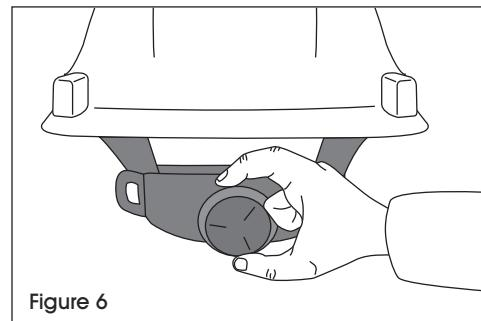

Figure 6
1. Turn ratchet knob counterclockwise until the headband opens to the largest size. (See Figure 6)
(See Figure 6)